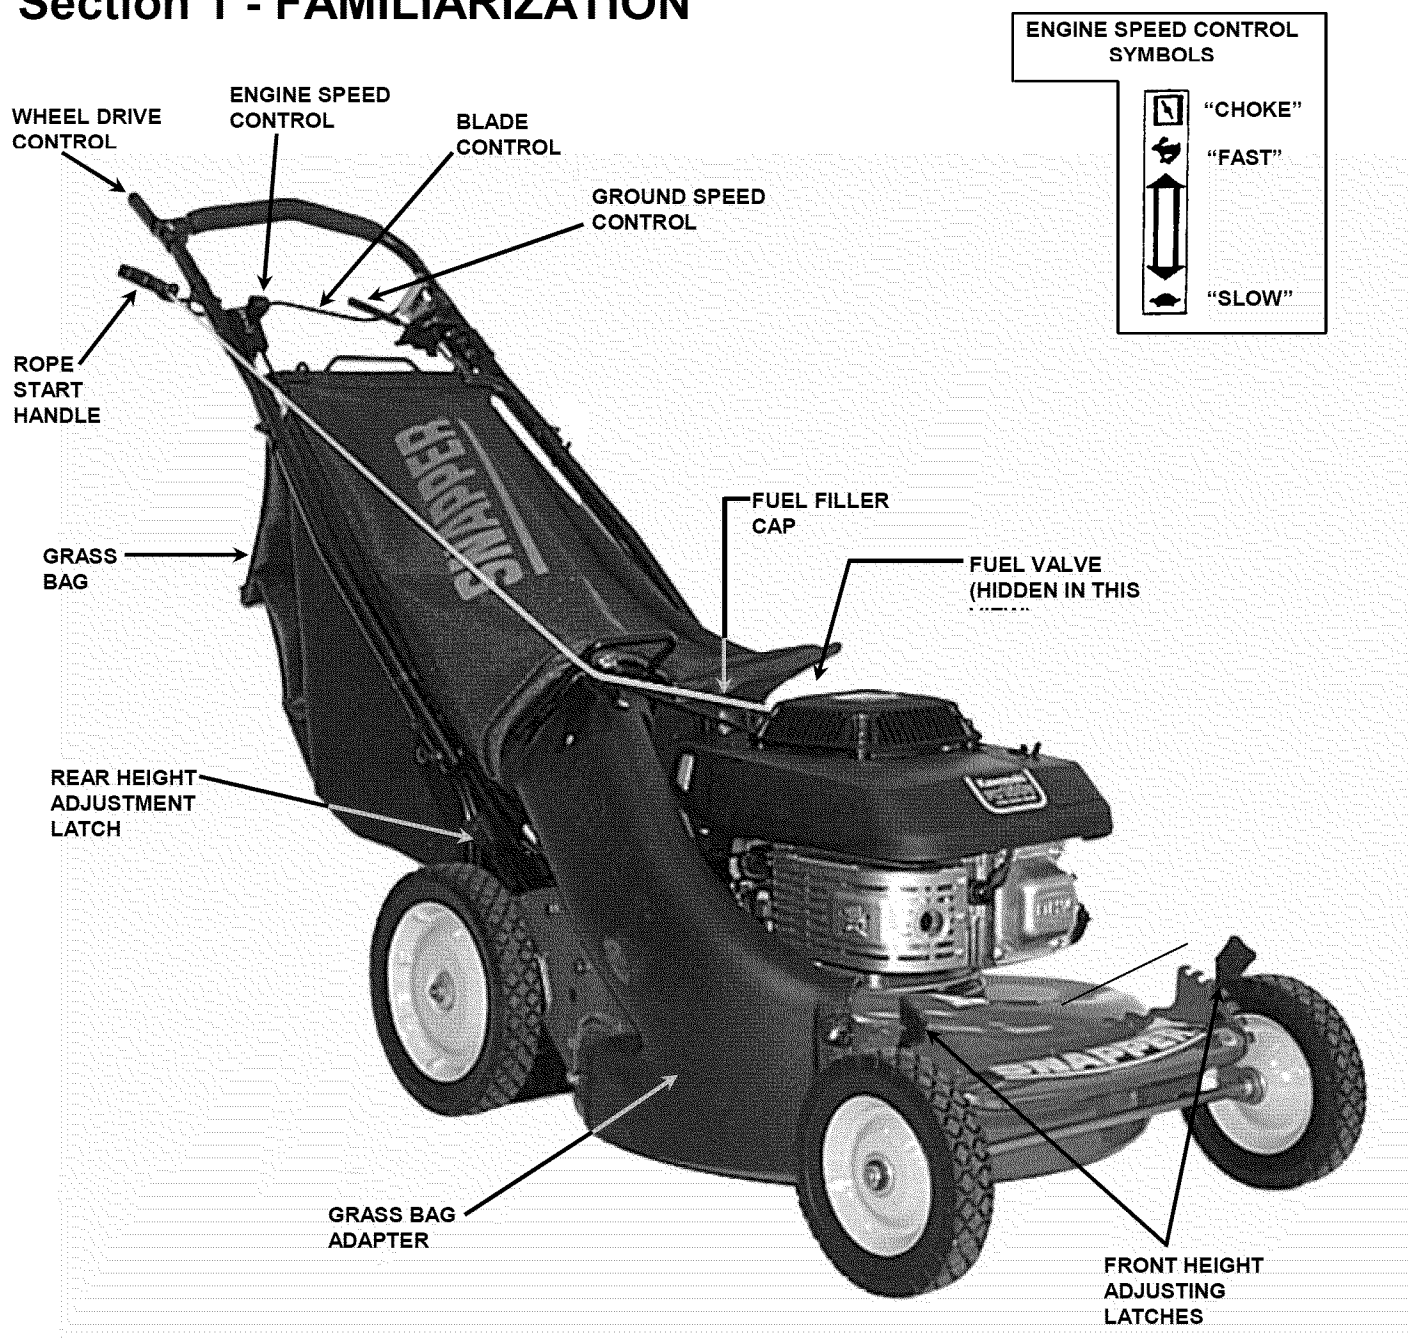
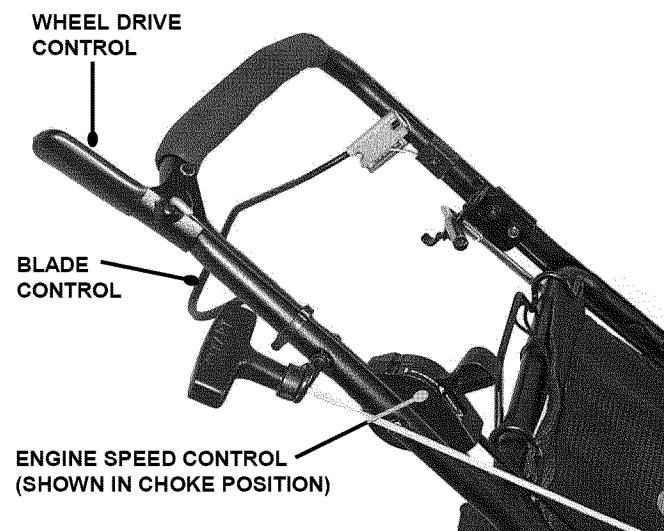

FIGURE 1.1
FIGURE 2.3
The nomenclature drawing above, Figure 1.1, shows the essential parts of the SNAPPER WALK BEHIND MOWERS. It is recommended that all operators of the mower become thoroughly familiar with the controls, parts and operation of the mower before operating. Specific details involving the engine are found in the separate engine owner’s manual. Study these manuals before operating and keep both handy for future reference.
1. Turn fuel valve to on. See Figure 1.1. Move engine speed control to the "choke" position. The choke should not be required to restart a hot engine. See Figure 2.3.
4. After engine starts, move engine speed control away from the choke position to the "Fast" (Rabbit) position. See Figure 2.3.